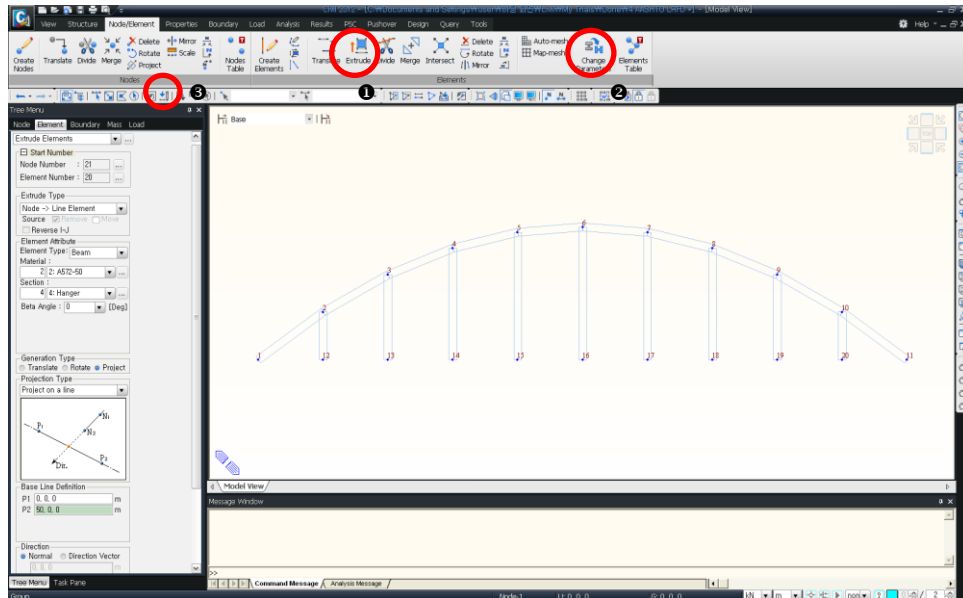

Figure 4.8 Hanger Generation
The arch shape (parabola/ellipse with equal/ equal-projected spacing) can be selected in the Type field of the Input & Edit tab. Considering the hangers at an equal spacing, select "Parabola1" to set the nodes on the arch rib at an equal spacing projected on a horizontal line (Figure 4.8).
Use  **Extrude Elements** to generate the hangers. Extend the nodes generated on the arch rib by projecting them perpendicularly downward (Figure 4.8).
1. Click  **Extrude Elements** in *Node/Element > Elements > Extrude* from the Main Menu (Figure 4.8①).
13. Click  **Change Element Parameters** (Figure 4.8②).
14. Click  **Select Recent Entities** (Figure 4.8③).